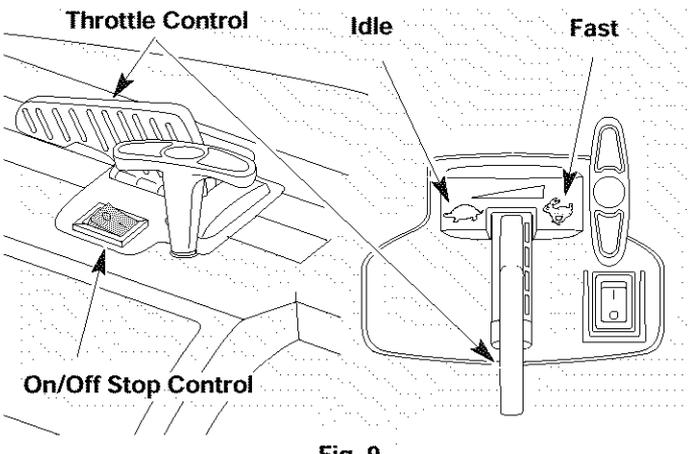
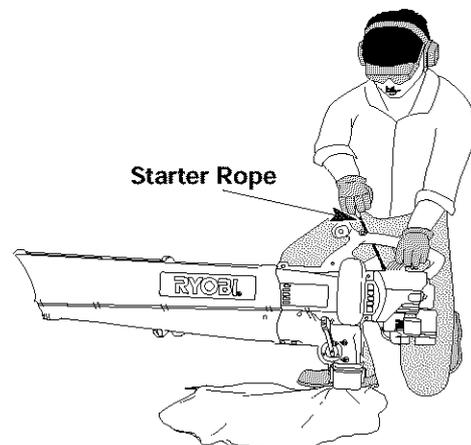

Fig. 9
Fig. 11
NOTE: The On/Off Stop control is a momentary switch and is always in the **ON (I)** position (Fig. 9).
5. With the unit on the ground (Fig. 11), move the throttle control to the fast position () (Fig. 9).
6. Pull starter rope briskly (Fig. 11). Continue pulling until the engine sounds as though it wants to run (normally 2 to 5 pulls).
8. Pull starter rope briskly 1 to 3 times to start the engine (Fig. 11).
NOTE: If the engine floods while trying to start, place the choke control in the **RUN (C |+)** position. Move the throttle control to the fast position () (Fig 9). Pull the starter rope briskly. The engine should start with three (3) to eight (8) pulls.
1. Move the throttle control to the idle position () (Fig. 9). Allow the engine to cool down by idling for 10-15 seconds.
2. Press and hold the On/Off Stop control down in the **STOP (O)** position until the engine comes to a complete stop (Fig. 9).
1. Press and hold the On/Off Stop control down in the **STOP (O)** position until the engine comes to a complete stop (Fig. 9).